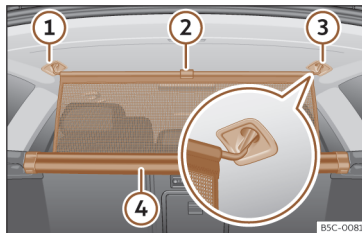

Fig. 134 In the luggage compartment: securing the net partition.
- Pull up handle»» Fig. 134 ② to remove the net from the casing ④.
- Hook in the net partition on the right or left side ③ (magnified image).
- Hook in the net partition into the housing on the other side ① by pulling the rod.